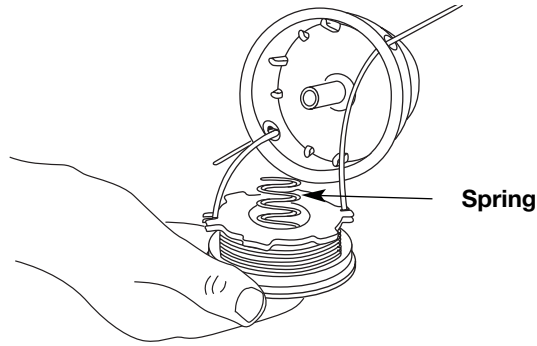

Fig. 20
13. Insert the ends of the line through the eyelets in the outer spool and place inner reel with spring inside the outer spool (Fig. 20). Push the inner reel and outer spool together. While holding the inner reel and outer spool, grasp the ends and pull firmly to release the line from the holding slots in the reel.
5. Insert the ends of the line through the eyelets in the outer spool (Fig. 20).
2. Insert the four (4) screws into the holes in the air filter/muffer cover (Fig. 20) and tighten. **Do not over tighten.**